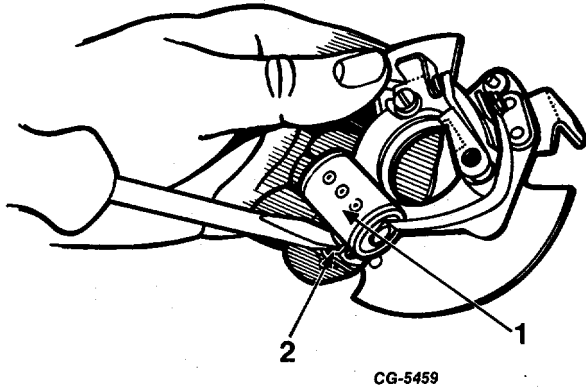

Fig. 12 Removing Condenser
- b. Remove condenser mounting screw (Figure 12) and lift condenser from advance plate.